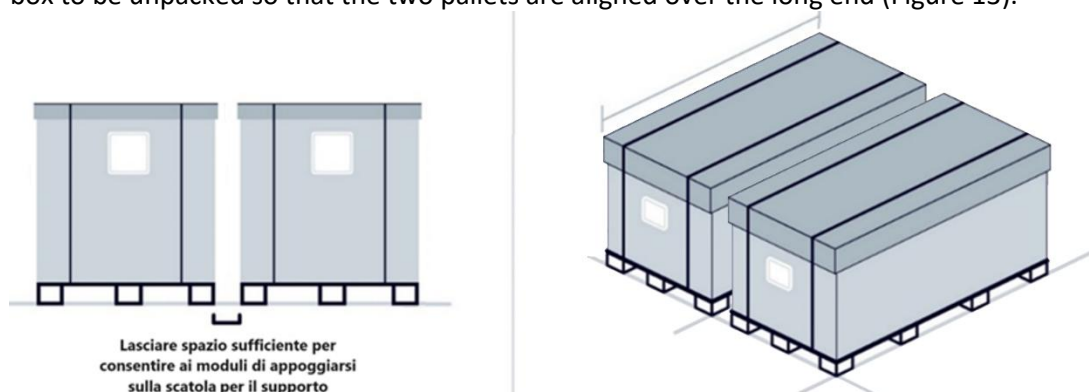

Figure 13: Boxes correct alignment.
3. Handle one of the two boxes by using adequate tools, such as a forklift, and place it alongside the box to be unpacked so that the two pallets are aligned over the long end (Figure 13).